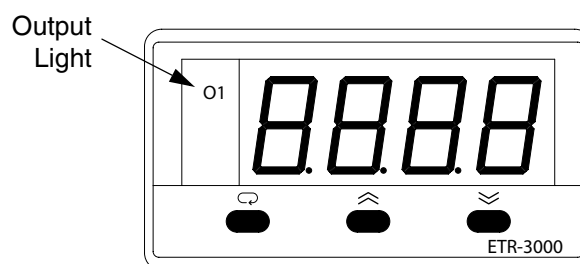

FIG. 7. Temperature Zone Controller
4. **Hose Heat Temperature Controller.** The hose heat temperature controller (FIG. 7) is programmed for manual operation in the event of a thermocouple failure and is not interchangeable with the primary heater controllers. To test for a faulty controller, switch OFF and lockout incoming power at the source, and substitute another hose heat controller known to be good. If the controller alternately displays SbEr and H2000, see step c on page 16. For all other error codes, replace the controller.